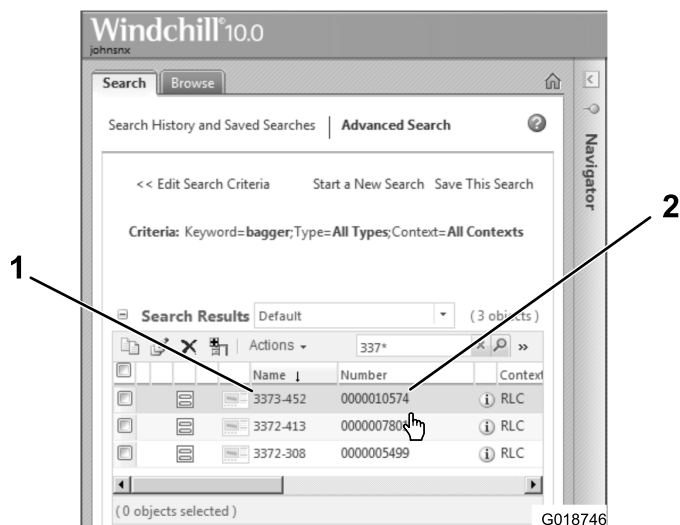

Figure 29
4. Remove the dipstick and wipe the end clean (Figure 29).
5. Slide the dipstick fully into the fill port without threading it into the port (Figure 29).
6. Remove the dipstick and look at the end. If the engine oil level is low, slowly pour only enough oil into the fill port to raise the level to the Full mark on the dipstick (Figure 29).
7. Replace and secure the dipstick (Figure 29).